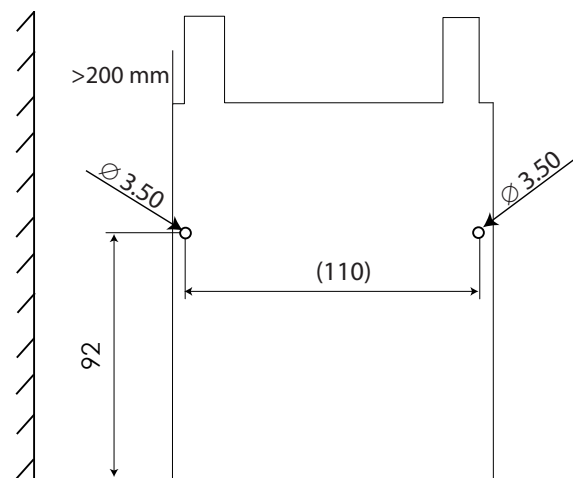

Fig. 1.b
1. make two holes as shown in Fig. 1.b;
2. fix the fastening bracket using two M4x12 screws supplied (see Fig. 1.c), using a spirit level to make sure installation is horizontal;